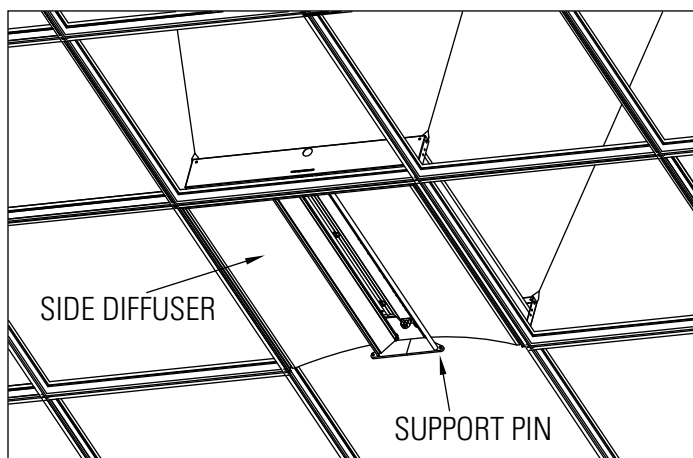

Figure 10
8. Install designated lamps and test. (Fig. 10) *NOTE: Depending on lamp configuration, installer may need to swing down a SIDE DIFFUSER to simplify lamp installation. (Fig. 11)*